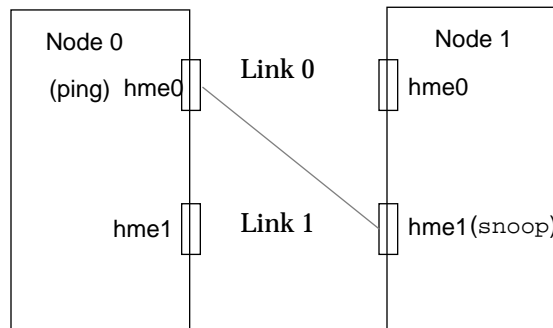

Figure 3-6 Private Network Link 1 Troubleshooting
- a. Assuming you have the same configuration as shown in Figure 3-6, then for node 0 enter the following:
4. Connect the hme1 port of node 0 to the hme0 port of node 1 as shown in Figure 3-6.
8. Connect the hme0 port of node 0 to the hme1 port of node 1 as shown in Figure 3-6.